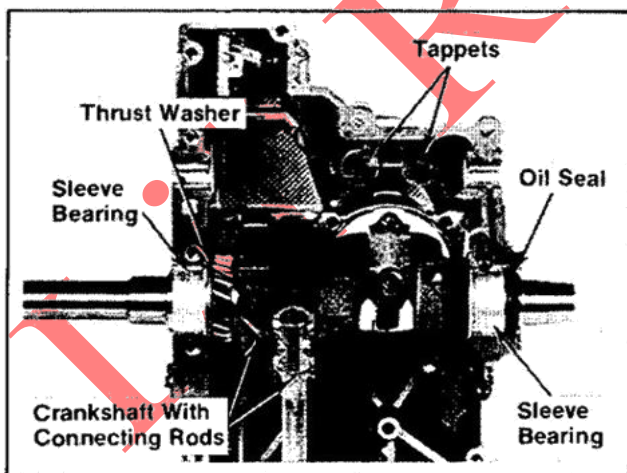

Figure 9-40. Removing Tappets, Crankshaft, Oil Seal, And Bearings
2. With a marking pen or paint, mark the tappets according to crankcase side and as either intake or exhaust. Remove tappets from both crankcase sides. Refer to Figure 9-40.
1. Remove the crankshaft with connecting rods, bearings, and oil seal from the #1 crankcase side. Refer to Figure 9-40.